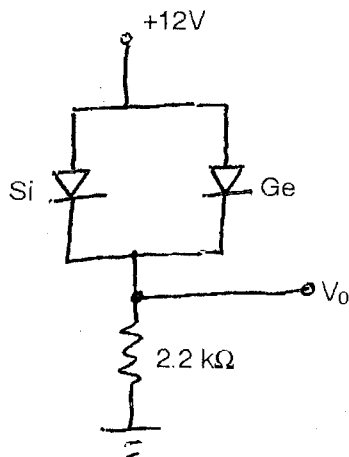

Fig. 1
2. a) i) Determine the value of  $V_0$  for the following network (Fig. 1)